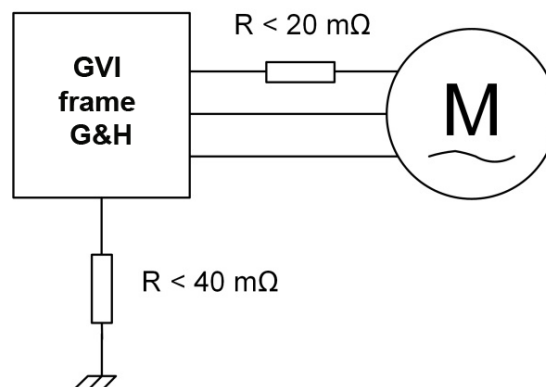

Figure 18 Connections to ground
- Parker recommends cable type Huber+Suhner Radox 155(S) with EMI screen.
- Do not use washers between cable lug (4, Figure 18 Use of washers for cable lug connections (example illustration) and terminal (3, Figure 18) as overheating will occur.